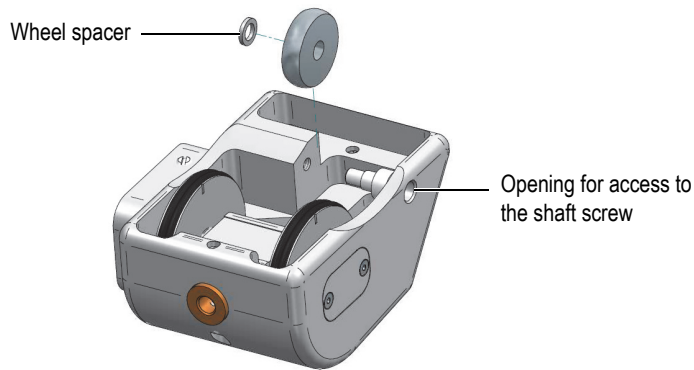

Figure 3-4 Idler wheel
- Loosen and remove the screw on the end of the idler-wheel shaft, using an Allen key (see Figure 3-4 on page 25).